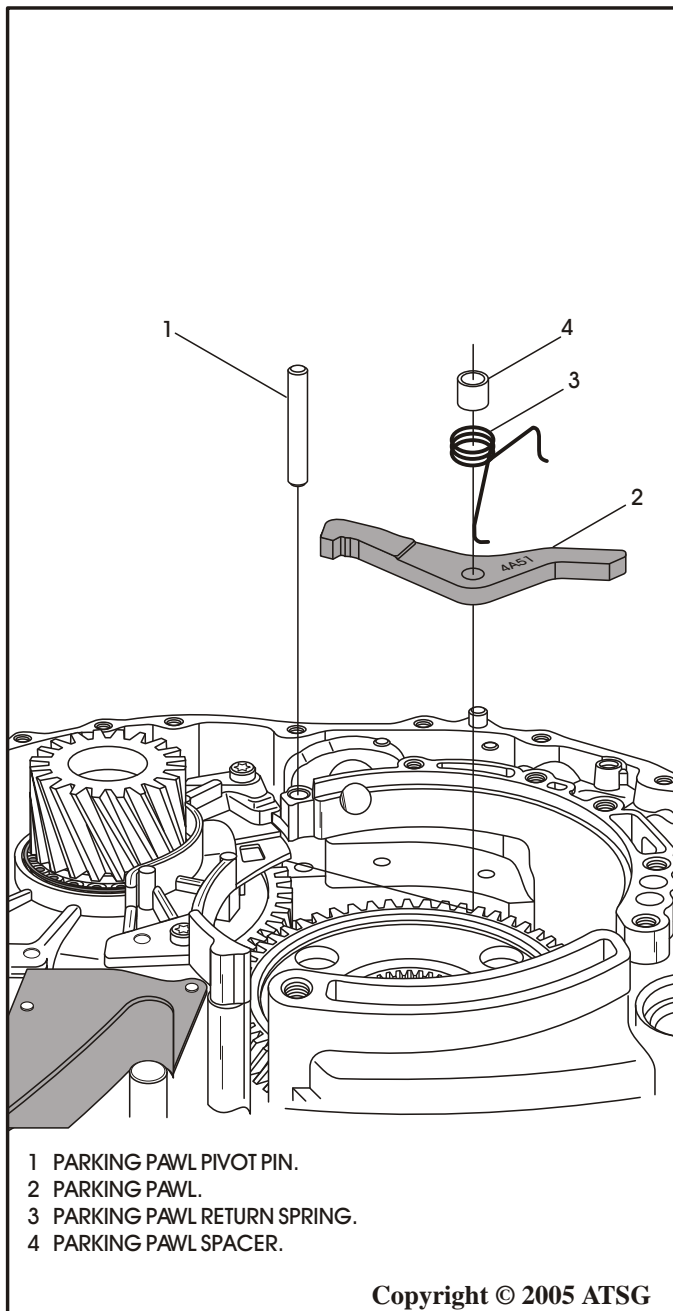

Figure 59
76. Unhook the parking pawl return spring and remove the parking pawl pivot shaft, as shown in Figure 59.
77. Remove the parking pawl, parking pawl spring and bushing, as shown in Figure 59.